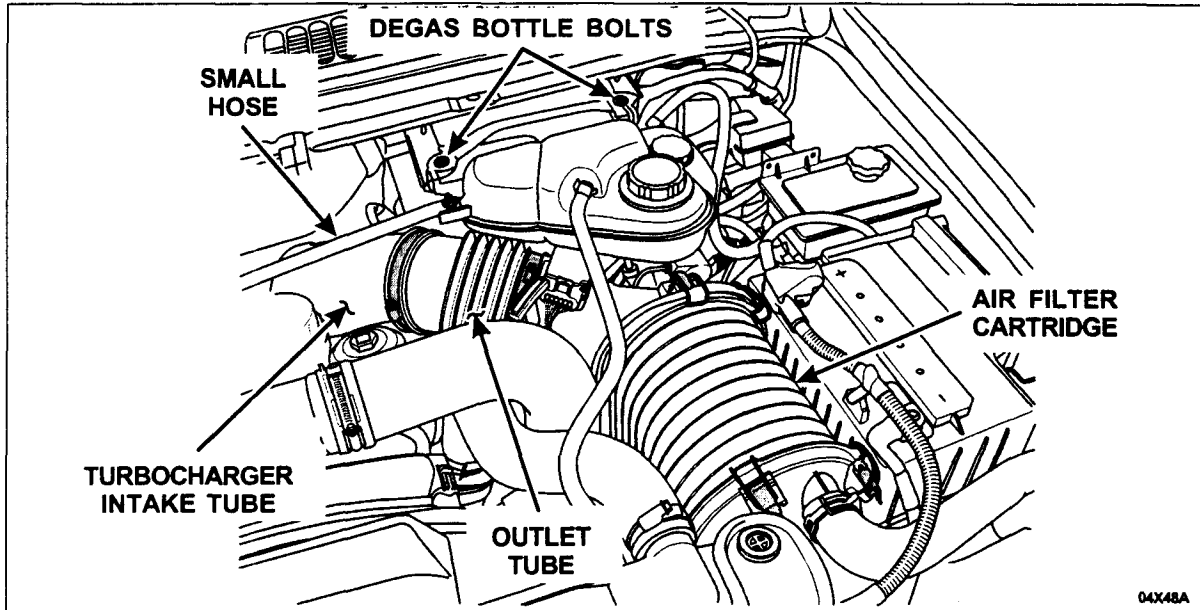

FIGURE 2
3. Remove the air filter cartridge, the outlet tube and the clean air tube. See Figure 2.
4. Disconnect and clamp off the small hose from the passenger side of the degas bottle and plug hole in the bottle. See Figure 2.
5. Remove the two (2) bolts and position the degas bottle aside. See Figure 2.
6. Remove the turbocharger intake tube. See Figure 2.